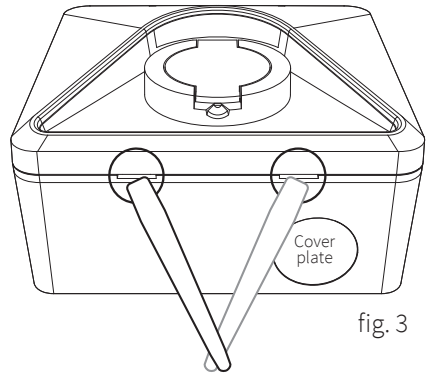

fig. 3
1. Using the plastic fascia removal tool supplied, push the tapered end into the lower slots on the bottom edge of the fascia to release clips. (Refer to fig. 3). Gently remove fascia and set to one side. (Place the fascia in the protective bag until needed).